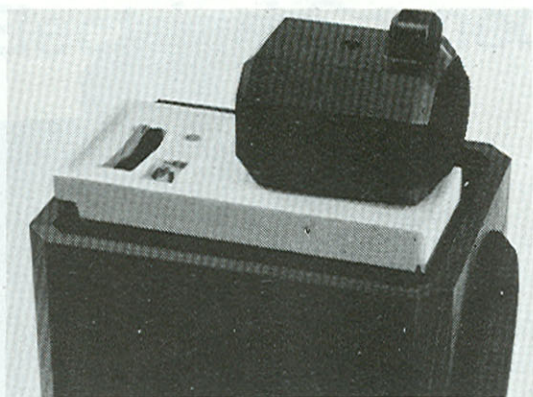

Fig. 5
3. Remove the polythene bag on the left-hand side of the loudspeaker containing the fabric foam cover for the bass enclosure (Fig. 5).